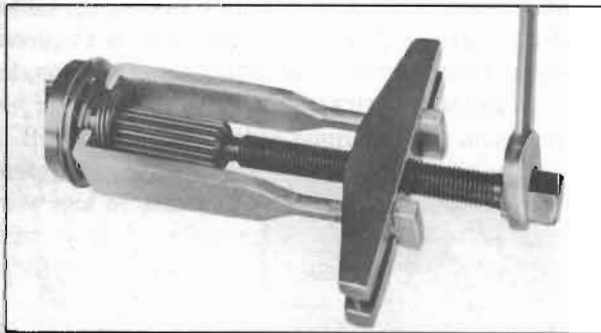

Figure 4-33—Removing Worm Gear with Puller J 1134-H
18. Remove speedometer worm gear, spacer, bearing and thrust washer from main shaft, using Puller J1134-H to remove worm gear and bearing. See figure 4-33.